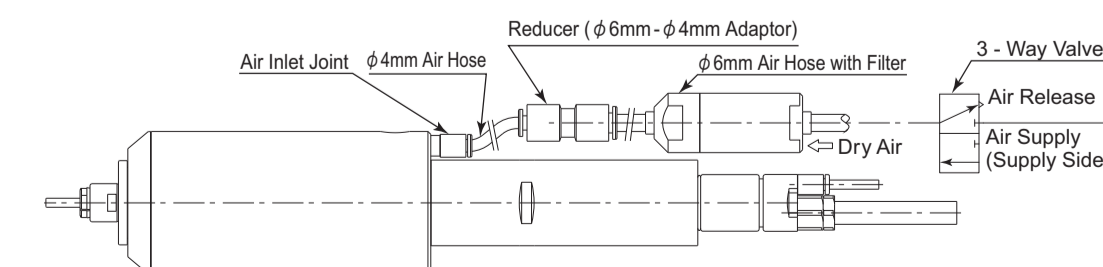

Fig. 4
- When installing the collet clamp / unclamp fittings, thoroughly read the instructions before connecting. (Fig. 4)